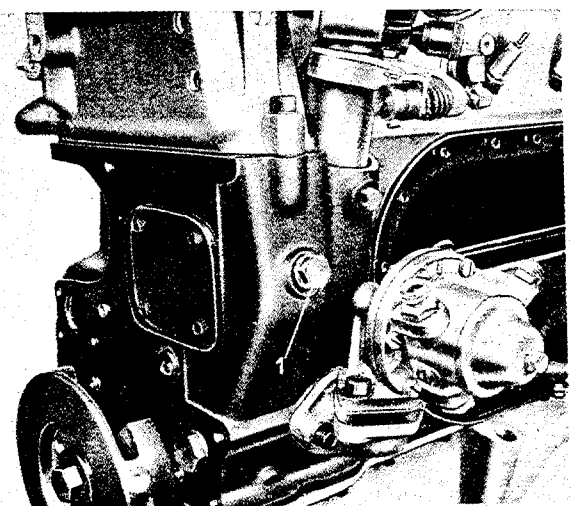

Fig. M 3/68
Run chain drive securing screw (1) into cylinder crankcase and tighten. Interpose a sealing ring (Fig. M 3/68).